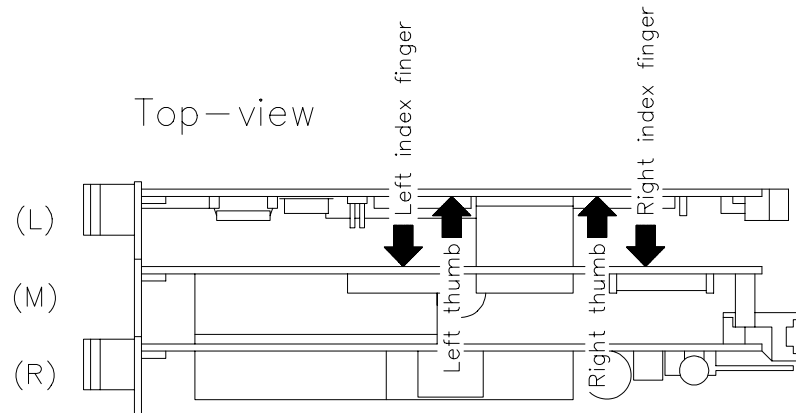

Figure 3 Pressure points at top side during disassembly of module
2. Apply pressure at the indicated positions (see Figure 3) using the thumb and index finger of both hands until the space between the boards has increased by approx. 2 mm (0.1 in).